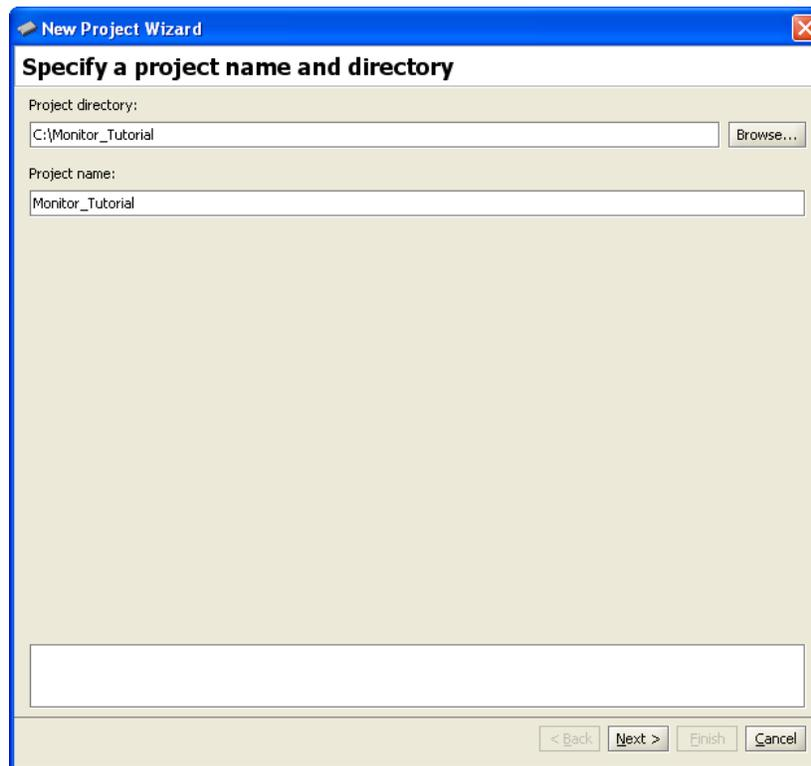

Figure 6. Specifying the project directory and name.
1. Select **File > New Project** to open the *New Project Wizard*, as illustrated in Figure 6. This Wizard presents a sequence of screens for defining a new project. Each screen includes a number of dialogs, as well as a
In Figure 6 we have specified the file system directory *C:\Monitor\_Tutorial* and the project name *Monitor\_Tutorial*. For simplicity, we have used a project name that matches the directory name, but this is not required.